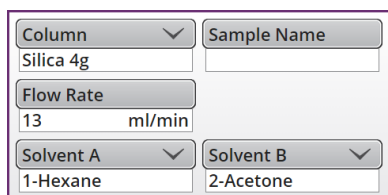

Figure 2. The Column selection list.
- If the column is not automatically recognized by the RFID reader (or the system does not have this option), you can manually select the column media and size from the **Column** list on the **Main** screen (Figure 2). When selecting the column, also select the **Scout** method.
3. Choose a solvent system (Figure 2).